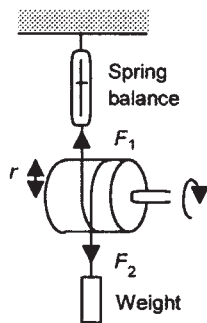

Figure 7.19 Activity 2
- 2 The output power of a motor can be determined by a form of mechanical brake; Figure 7.19 shows one such form. A belt or rope is wrapped round a pulley driven by the motor. One end of the belt is attached by means of a spring balance to a horizontal support and the other end to a weight. With the arrangement shown in the figure, when the pulley is rotated in a clockwise direction the reading of the balance is taken and the value of the weight noted. The torque due to brake friction applied to the pulley is $r(F_1 - F_2)$ where r is the radius of the pulley, F_1 is equal to the weight and F_2 is equal to the reading on the spring balance. If the motor has a rotational frequency of f then the output power is $r(F_1 - F_2) \times 2\pi f$. The output power of the motor is converted by the brake into heat. Use this, or a similar method, to determine the output power of a motor.